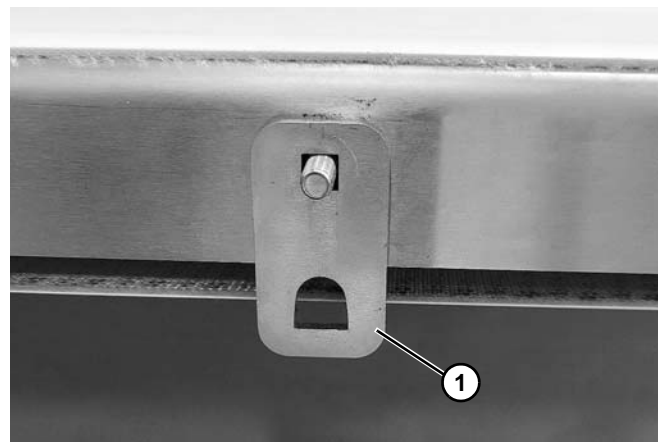

Figure 31
2. Install shaft bracket (**Figure 31, item 1**) onto carriage bolt.